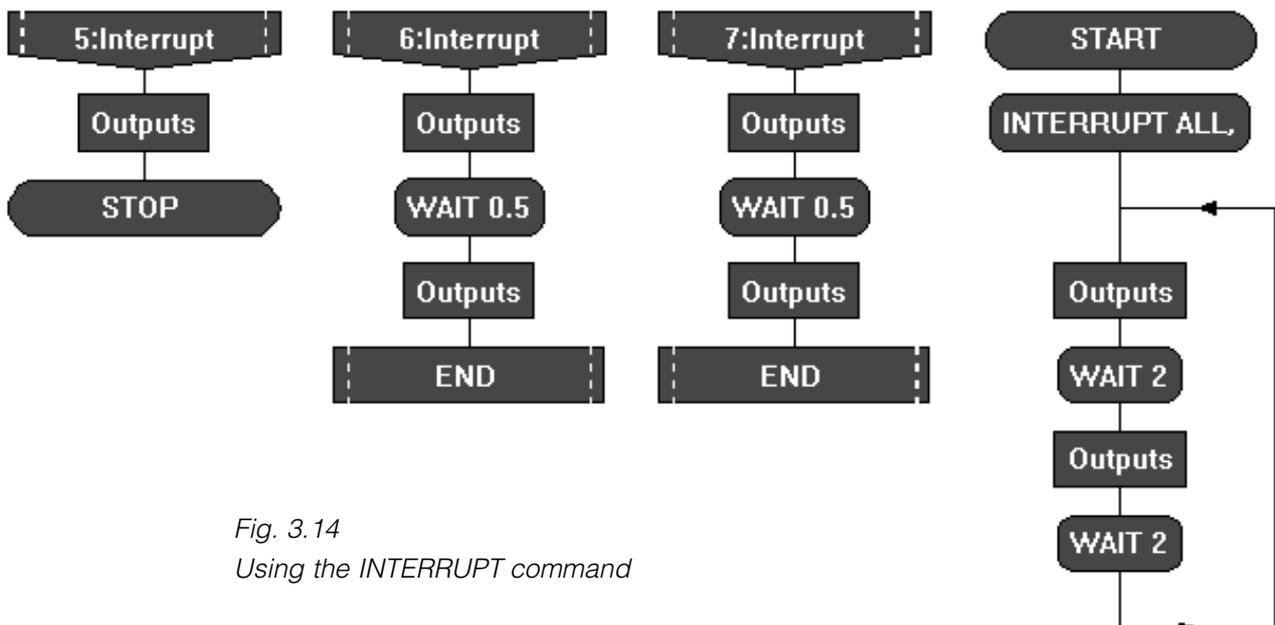

Fig. 3.14
1. Build the flowsheet shown in fig 3.14.